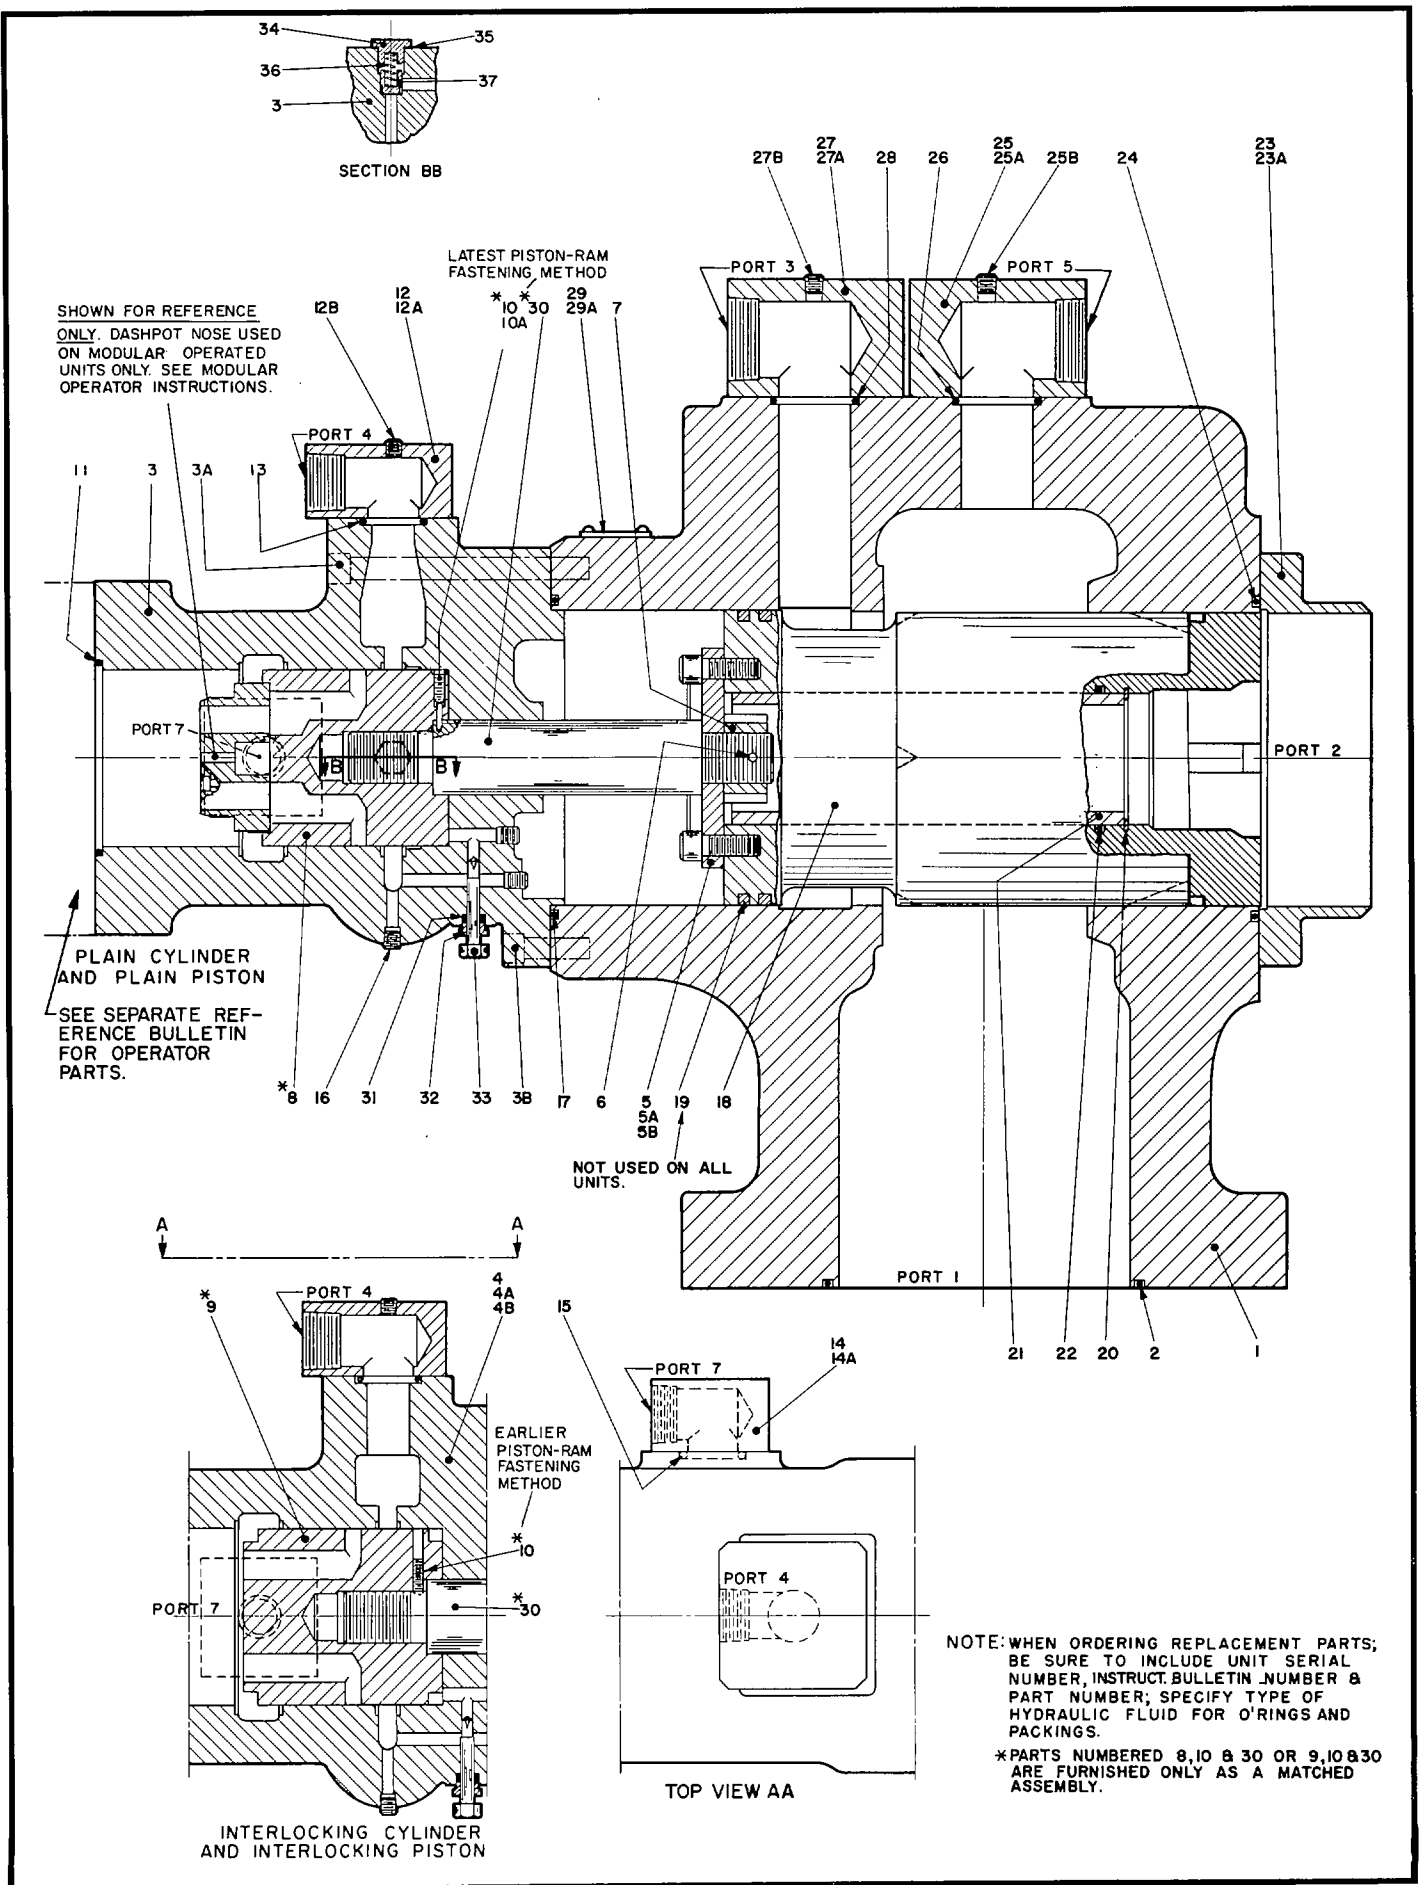

Figure 2. Parts Drawing, Basic Size 250 and Larger Prefill Valves Without Operators DS-986308B (504676B).
Refer to Figure 2. The principle parts of these prefill valves are an operator (see separate reference bulletin); a control cylinder (3 or 4) and a control piston (8 or 9) of either the standard or interlocking type; the prefill valve body (1) and the prefill valve plunger (18).
Refer to figure 2. It will be advantageous to tag similar parts (particularly screws, plugs and o'rings) during disassembly to be certain they don't become confused with similar parts and to ensure they will be returned to original location. Do not remove (locator) roll pins unless they are deformed or otherwise in need of replacement.
Refer to figure 2. Depending upon what part or parts are to be inspected, it may not be necessary to completely take apart all assemblies or disconnect piping.